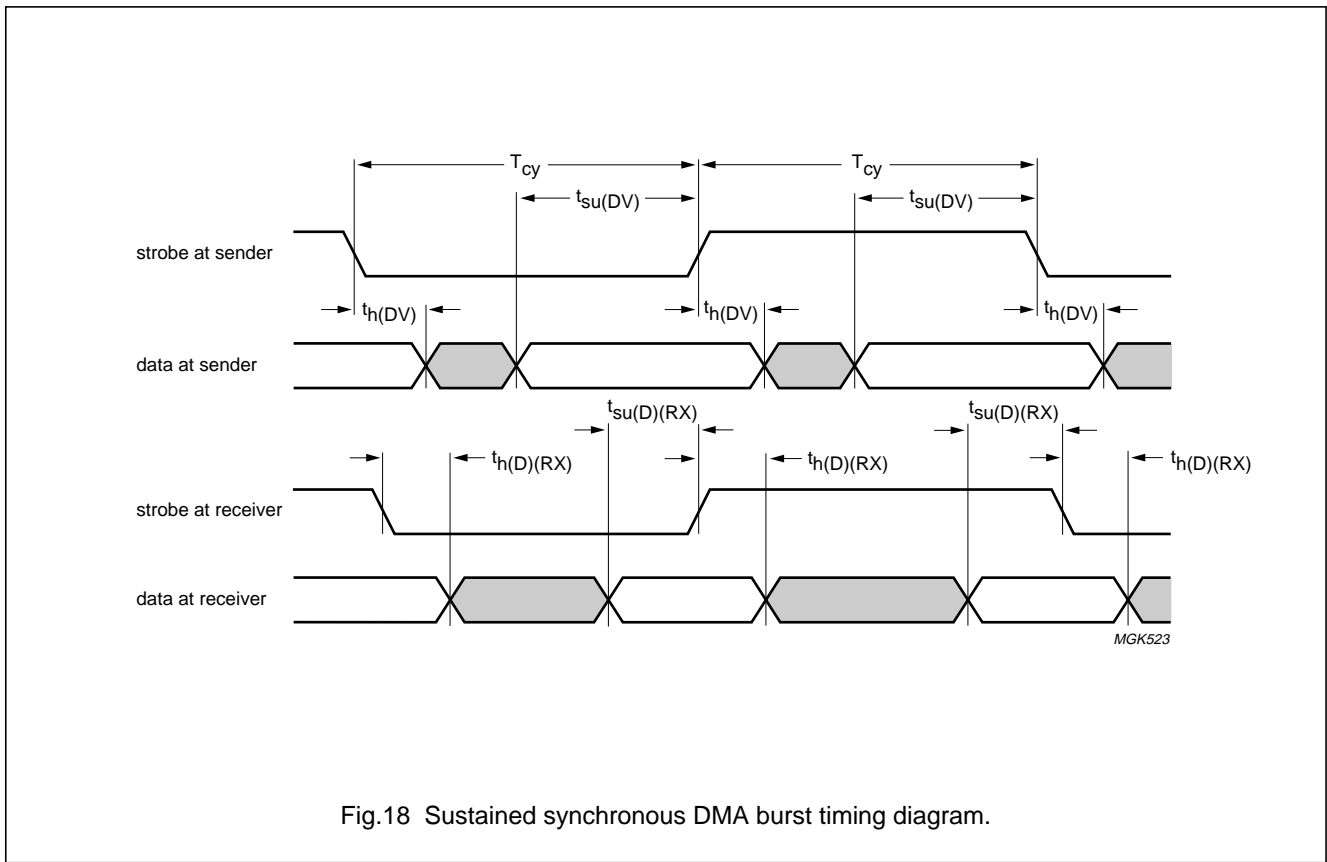

Fig.18 Sustained synchronous DMA burst timing diagram.
This section provides the timing diagrams for the ultra DMA protocol. The timing diagrams are shown in Figs 18 to 26.
**Table 110** Timing parameter values; see Figs 18 to 26